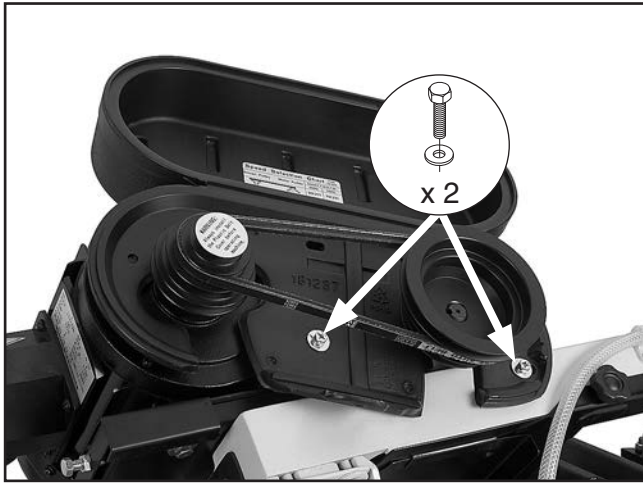

Figure 19. Pulley cover installed.
2. Remove (2) pre-installed 1/4"-20 x 1/2" hex bolts and (4) 1/4" flat washers.
3. Slide pulley cover over pulleys (see **Figure 19**).
4. Align holes and secure with fasteners you removed in **Step 2** (see **Figure 19**).